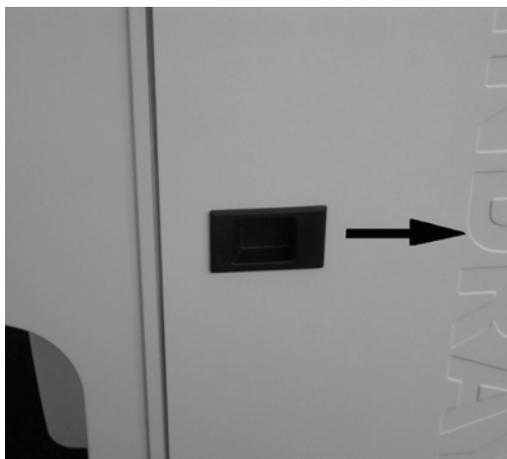

Figure10-23
3. Push the right door latch in the direction indicated in Figure10-23.